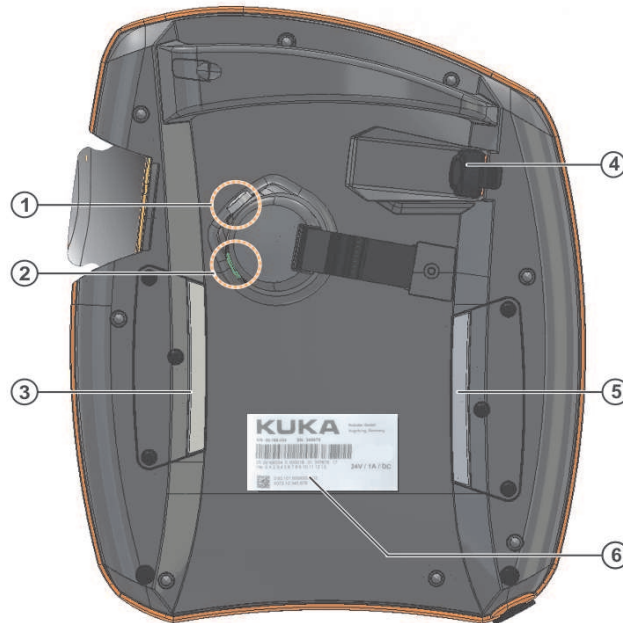
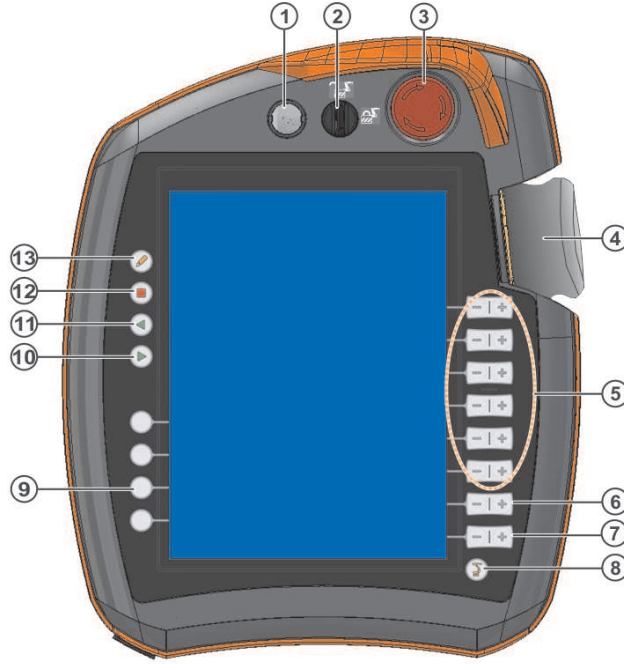

Figure 5: 3 and 5 are Enable buttons on the KUKA SmartPAD.
Figure 6: 10 is the Run button on the KUKA SmartPAD.
- To run the program, hold down half-way one of the enable buttons on the back of the KUKA SmartPAD. The enable buttons are labelled 3 and 5 in Figure 5. If you press too hard, an emergency stop will be activated. While holding down the enable button, press and hold the run button labelled 10 in Figure 6. Note that when running the line `RSI.ON` a warning will appear saying ‘Caution - sensor correction is activated’. Simply confirm this warning to continue.